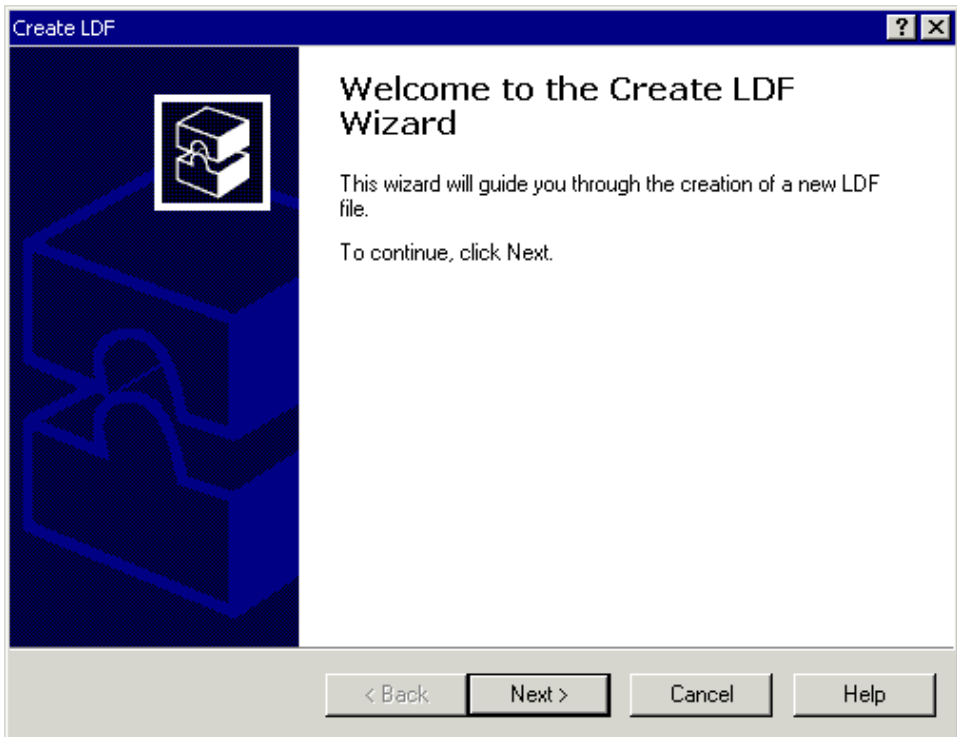

Figure 2-14. Create LDF Wizard
1. From the **Tools** menu, choose **Expert Linker** and then choose **Create LDF** to open the **Create LDF Wizard**, shown in Figure 2-14 on page 2-23.